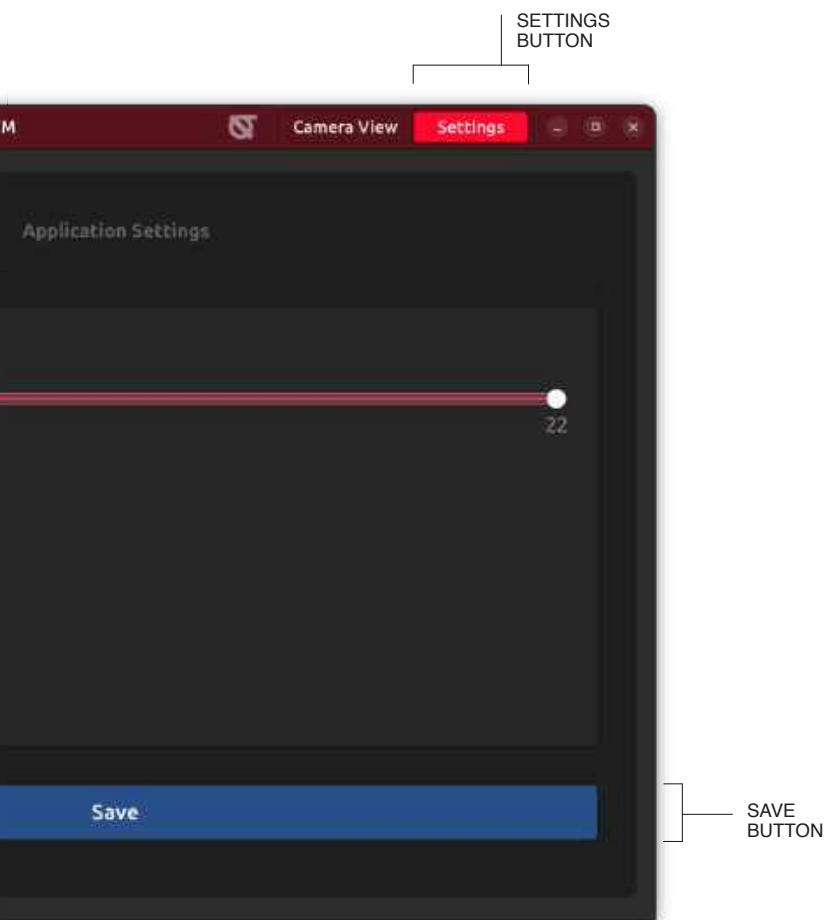

Fig 6
2. The Settings screen can be accessed from the tabs on the top right of the control bar. (Fig 6)